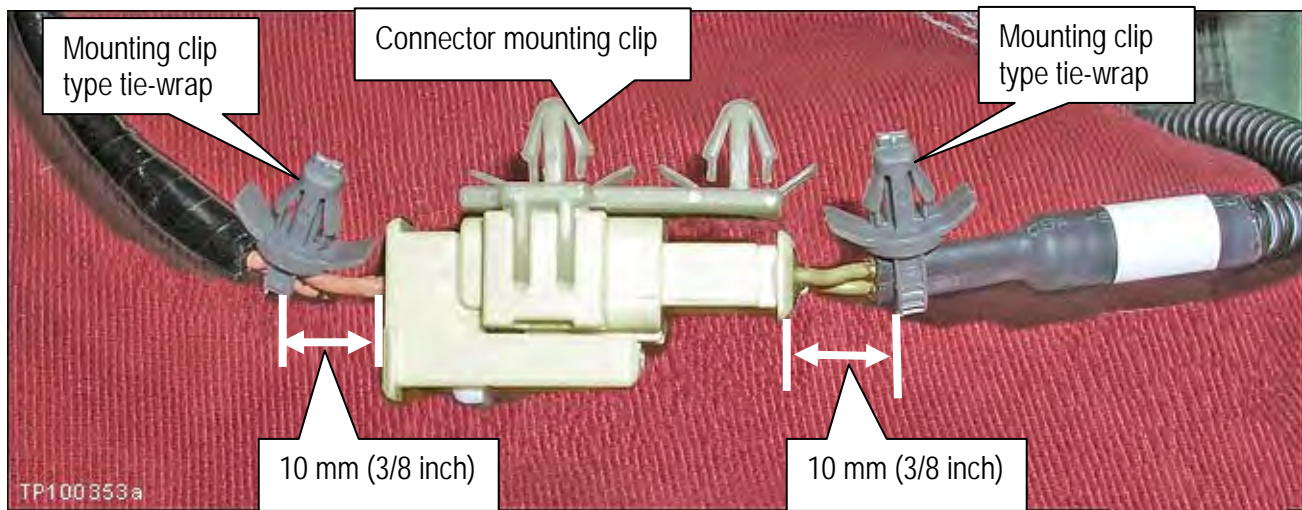

Figure 3a
5. Reinstall the connector mounting clip onto the new SAB connector (see Figure 3a).
6. Install 2 new "mounting clip type" tie-wraps as shown in Figure 3a.